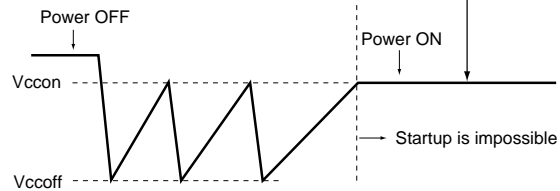

Fig. 22 Image of Vcc waveform when re-startup is impossible
After power-off, once VCC falls down below OFF threshold voltage, VCC rises up again and re-startup occurs while the capacitor C1 is discharged until approximately zero because VCC voltage rises up by the current flowing RA. This operation is repeated several times. After the repeated operation, IC stops in the condition that VCC voltage is equal to Vcon (=ON threshold) because capacitor C1 is discharged gradually and the decreased VCC inclination is out of the condition required by equation (4). After that, re-startup by power-on can not be guaranteed even when equation (8) is satisfied. The image of that the startup is impossible is shown in Fig. 22. It is necessary to startup IC that supply current Icc (startup) to VCC is over 4mA in the condition of Tj < 100 °C during Vcc is kept at Vcon(≒16V, balance state at Vcon after the repeated operation.